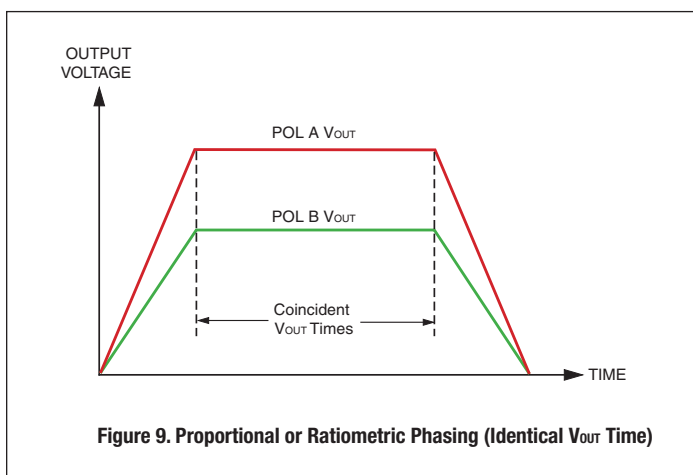
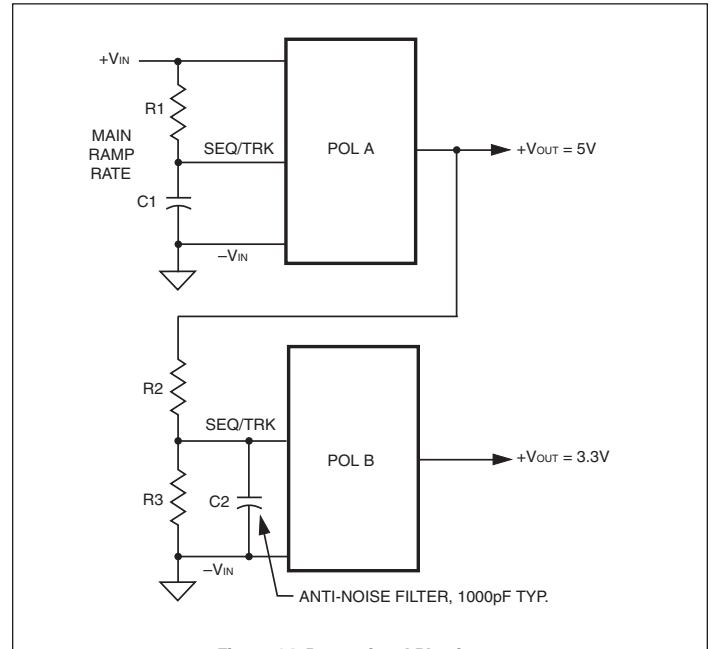

Figure 9. Proportional or Ratiometric Phasing (Identical V_{OUT} Time)
Figure 14. Proportional Phasing
Figure 9 shows two POL's with different slew rates in order to reach differing final voltages at about the same time.
Figure 14 shows both a RC ramp on Master POL A and a proportional tracking divider (R2 and R3) on POL B. We have also added an optional very small noise filter cap at C2. Figure 14's circuit corresponds roughly to Figure 9's timing for power up.
- [7] The Sequence is a sensitive input into the feedback control loop of the converter. Avoid noise and long leads on this input. Keep all wiring very short. Use shielding if necessary. Consider adding a small parallel ceramic capacitor across the Sequence/Track input (see Figure 14) to block any external high frequency noise.